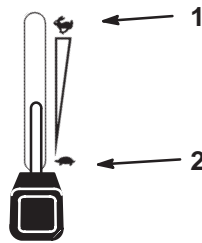

Figure 13
5. Move the throttle control to the Fast position before starting a cold engine (Fig. 13).
1. Push the PTO to off (Fig. 13).
2. Move the throttle lever midway between the slow and fast positions (Fig. 13).